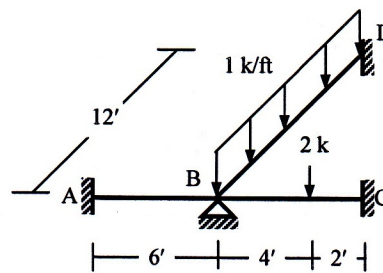

Fig. 4
4. For the grid loaded as shown in *Fig. 4*, use the stiffness method to calculate the rotations at joint B [Given: $EI = 40 \times 10^3 \text{ k-ft}^2$, $GJ = 30 \times 10^3 \text{ k-ft}^2$].